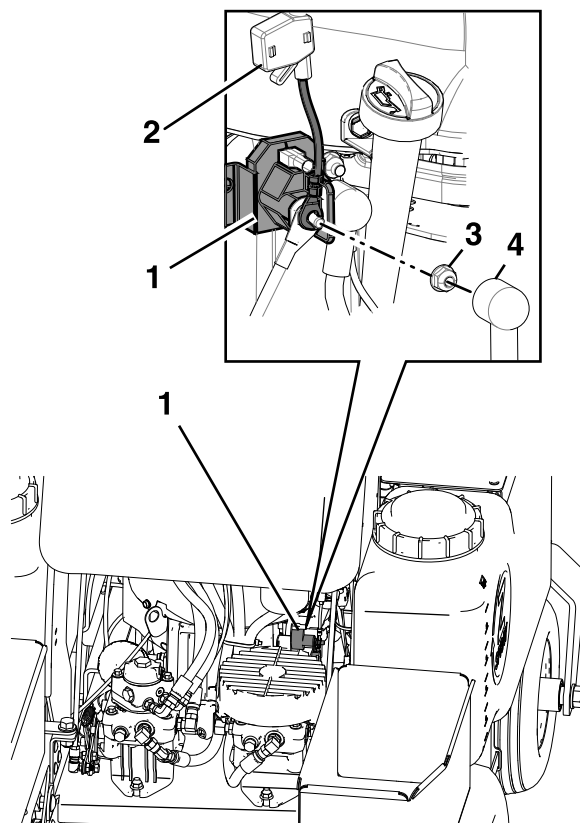

Figure 9
- For 24 Gallon Model: Remove the nut and install the fuse holder harness accessory to starter solenoid and reinstall the nut and insulator (see Figure 9).